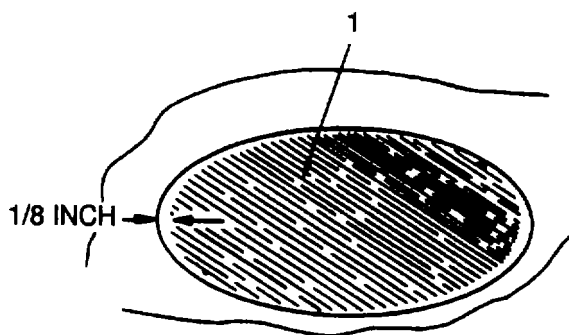

Figure 2-30. Applying Adhesive Over Area No More Than 1/8 Inch Buffed Area
(k) Prepare new batch of adhesive (item 1, table 2-11) and carefully apply a uniform coat over patched area (1, figure 2-30) to no more than 1/8 inch buffed area edge. Use a brush (item 6, table 2-11). Smooth surface with gloved fingers wet with acetone (item 3, table 2-11) and remove any excess adhesive from unbuffed area with a dean cloth (item 16, table 2-11) and acetone (item 3, table 2-11). Wear gloves (item 4, table 2-11).
(k) Prepare a new batch of adhesive (item 1, table 2-11) and carefully apply a uniform (liberal/heavy) coat of adhesive mixture (1, figure 2-30) over previous coats of barrier adhesive to within no more than 1/18 inch of O.D. of buffed edge area. Use a brush (item 6, table 2-11). Smooth surface with gloved fingers wet with acetone (item 3, table 2-11) and remove any excess adhesive from unbuffered area Use dean cloth dampened with acetone (item 3, table 2-11). Wear gloves (item 4, table 2-11).
(q) Prepare a new batch of adhesive (item 1, table 2-11 ) and carefully apply a uniform coat of repair adhesive (1, figure 2-30) over patched area to within no more than 1/8 inch of O.D. of buffed edge. Smooth surface with gloved fingers wet with acetone (item 3, table 2-11). Use a brush (item 6, table 2-11). Remove any excess adhesive with cloths dampened with acetone (item 3, table 2-11). Wear gloves (item 4, table 2-11).